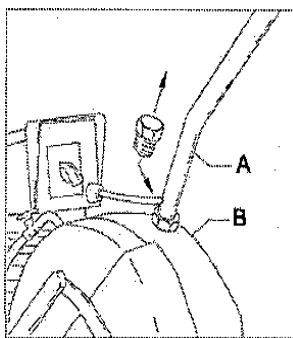

Fig 4.01
- Remove the plastic plug from the saw head (fig. 4.01 B). If so required a lifting hook M20 DIN 580 can be screwed into the hole.
- Install the handle in the saw head and lock it (fig 4.01 A).
- Check on the level gauge of the saw head whether it contains sufficient oil. If necessary fill up (fig. 4.01, see arrow).